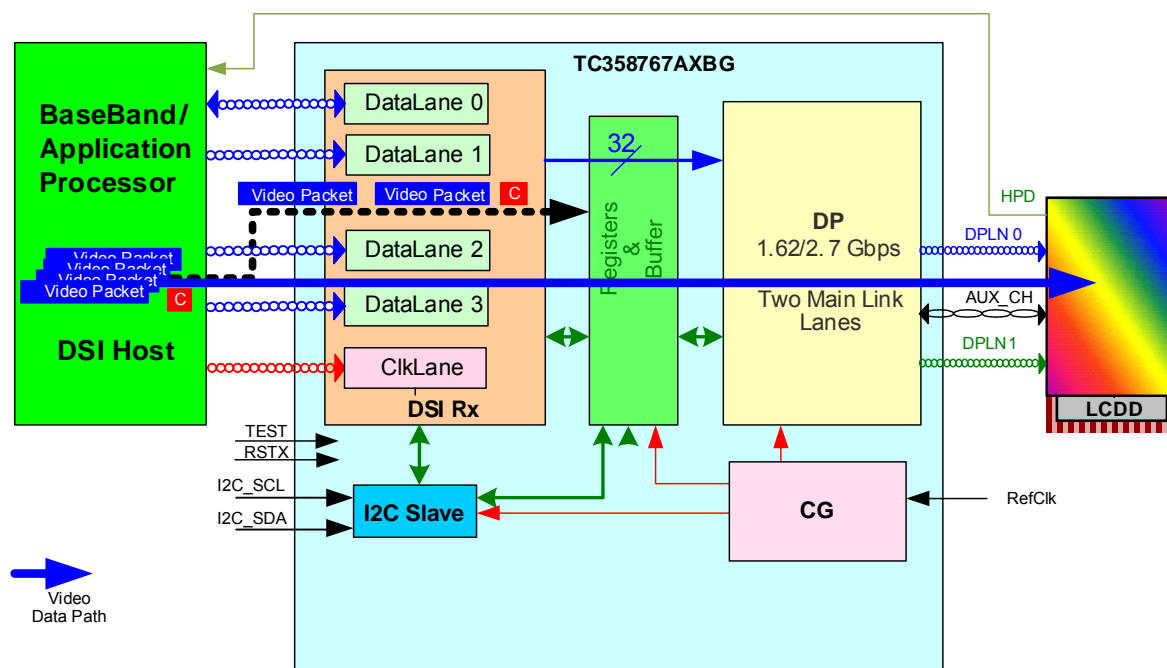

Figure 1.1 System Overview with TC358767AXBG in MODE_S21 Configuration
- **Mode_S21:** A system configuration where TC358767AXBG may typically be used is shown in Figure 1.1. In this configuration, the TC358767AXBG can support displays with resolution up to WUXGA (1920×1200) at 24bit, 60 fps or WUXGA (1920×1200) at 18bit, 60 fps. Video stream source is from DSI Host.